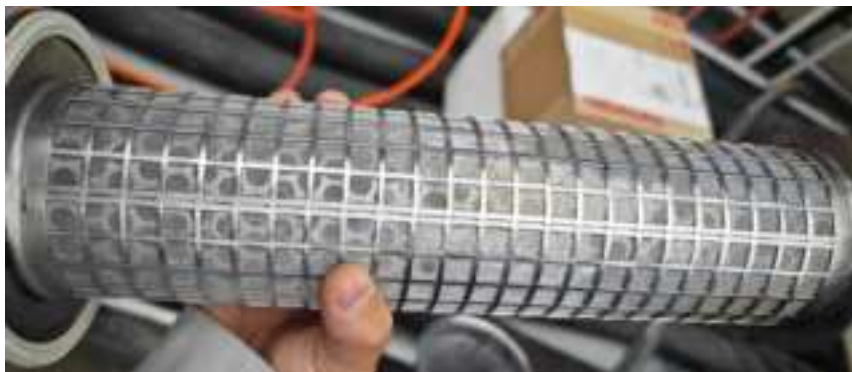

Figure 9.2 Remove the pipeline filter.
- d. Remove and clean (or replace) the filter screen inside the filter. Reference Figure 9.2.